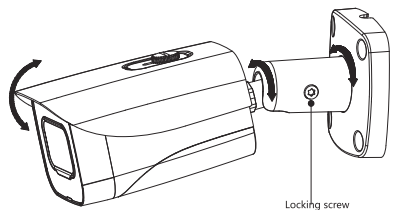
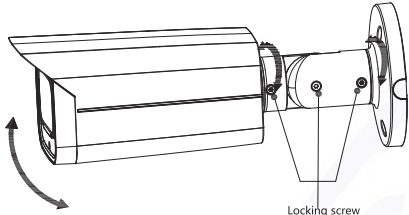

Figure 3-3
Figure 3-4
- Find the mounting template sticker from the accessory pack and stick it to the mounting surface ⑤. Drill screw holes (and the cable outlet hole if it needs to go through the mounting surface) on the mounting surface as indicated on the mounting template.
- For masonry mounting surface, insert expansion bolts ④ from the accessory pack in the screw holes.
- Adjust the location of the bracket ③ according to cable outlet requirement (top out or side out), then pull the cable out through mounting surface or the side wire tray. Align the screw holes on the bracket ③ to those on the mounting surface, then put in and fasten the supplied self-tapping screws ② to attach the device ① to the mounting surface.
- Loosen the locking screw first, aim the lens to the ideal angle and adjust the focus until you get clear image (see Figure 3-3 or Figure 3-4), and then fasten the locking screw.